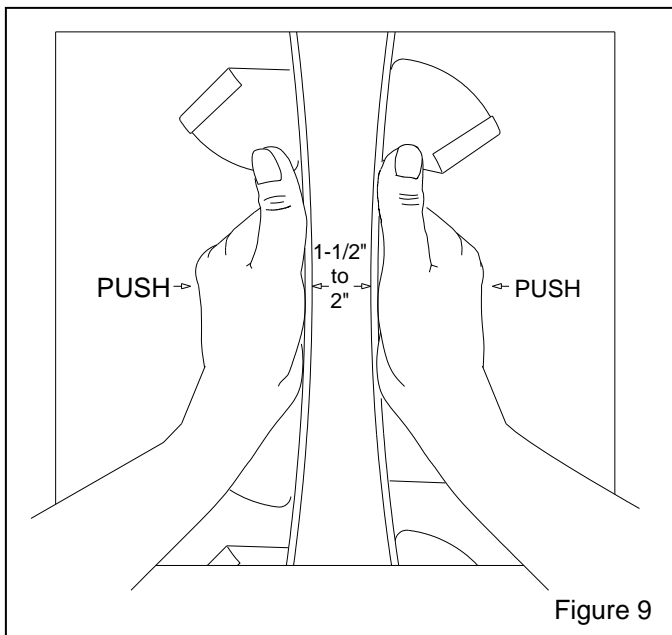

Figure 9
5.1.3 Working through the center-leg access opening, use both hands to draw the two sides of the belt together. If the belt is tightened correctly, it cannot be drawn any closer together than between 1-1/2" to 2". See Figure 9.